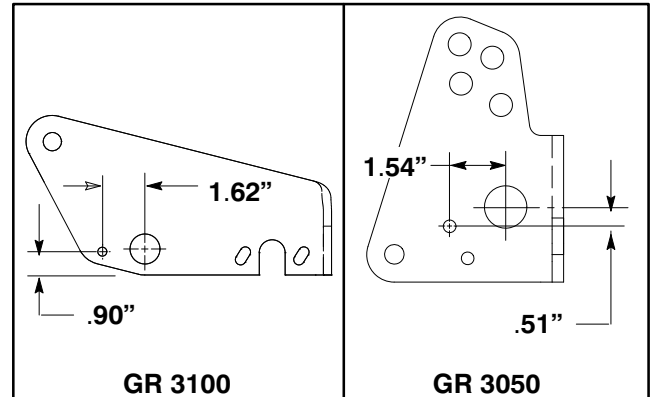

Figure 7
A. Using dimensions shown in figure 7, locate and scribe a line on appropriate frame member.